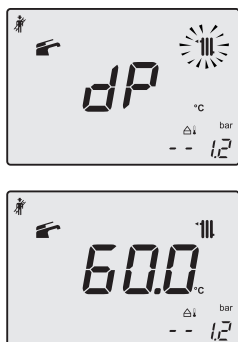

Fig. 10.27
- Press further key 19 to vary again the output in flue sweep mode: when the LCD display displays the letters **dP** that alternate with the heating water temperature value (e.g.60), the "flue sweep function" is at maximum output in domestic hot water mode" (Fig. 10.27).